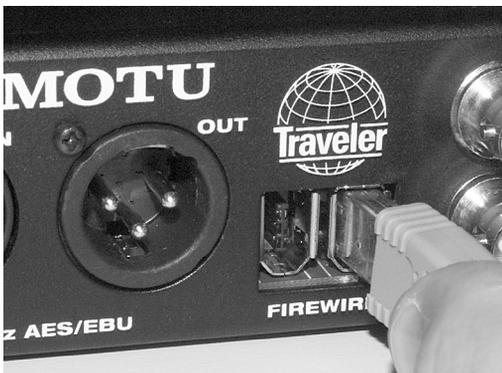

Figure 3-1: Connecting the Traveler to the computer.
**2** Plug one end of the Traveler FireWire cable (included) into the FireWire socket on the computer as shown below in Figure 3-1.
**3** Plug the other end of the FireWire cable into the Traveler I/O as shown below in Figure 3-1.